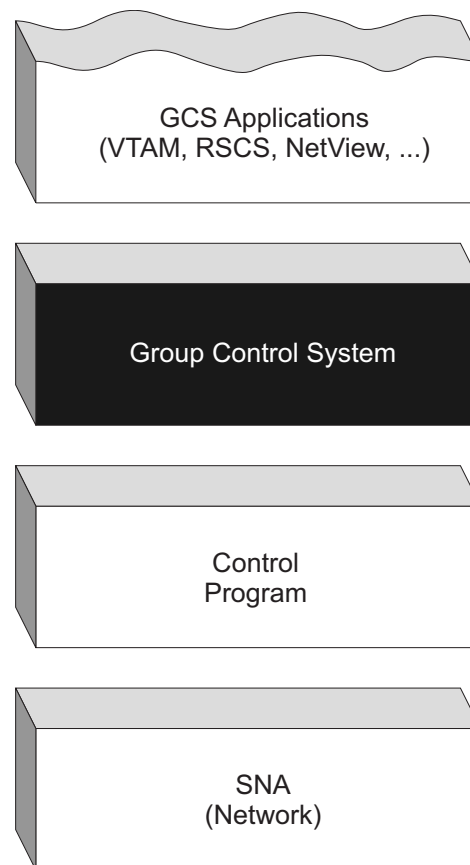

Figure 1. Group Control System, an Interface between Applications and the Control Program
- z/VM's Control Program (CP), Figure 1.